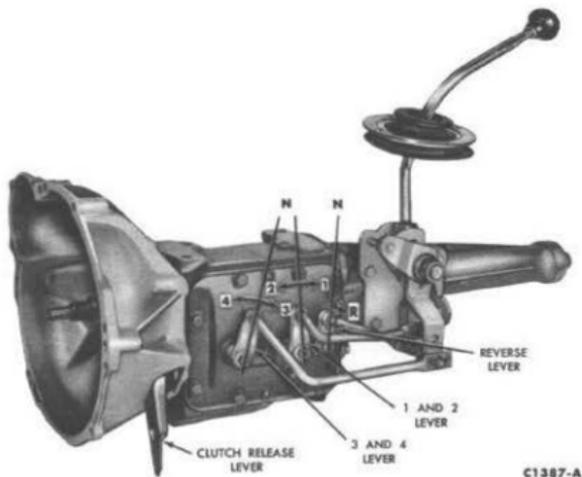
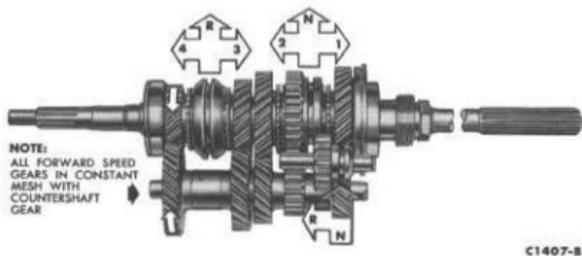

FIG. 47—4-Speed Floor-Shift Transmission
FIG. 48—Power Flow—4-Speed Transmission
The four-speed transmission (Fig. 47) is of the fully synchronized type, with all gears except the reverse sliding gear being in constant mesh. All forward speed changes are accomplished with synchronizer sleeves (Fig. 48) instead of sliding gears. The synchronizers will enable quicker shifts, eliminate gear clash and permit down-shifting in all forward speeds.
The shift linkage is mounted directly on the transmission extension housing (Fig. 47) and enters the driver's compartment through an opening in the floor pan. A flexible rubber boot is provided to seal the driver's compartment (Fig. 49) from the exterior.
The forward speed gears are helical-cut and are in constant mesh (Fig. 48). Gears used in the reverse train are spur-cut and are not synchronized.
raise the car on a hoist. Insert a 1/4-inch drill or rod into the alignment hole as shown in Fig. 50. If the rod will not enter, check for bellied or bent connecting rods. If the connecting rods are the correct shape, check for loose lever lock nuts at the rod ends. Reset the linkage by loosening the three rod-retaining lock nuts (Fig. 50) and moving the levers until the 1/4-inch gauge rod or drill will enter the alignment holes. Make sure the transmission shift levers are in neutral and the reverse shifter lever is in the neutral detent (Fig. 47). If there is any doubt about location of the neutral position, disconnect the shift rods at the retaining lock nuts and rotate each forward speed shift lever through its three positions until
1. Disconnect the three shift rods from the shift levers (Fig. 47). The reverse shift lever nut must be loosened to free the reverse rod.